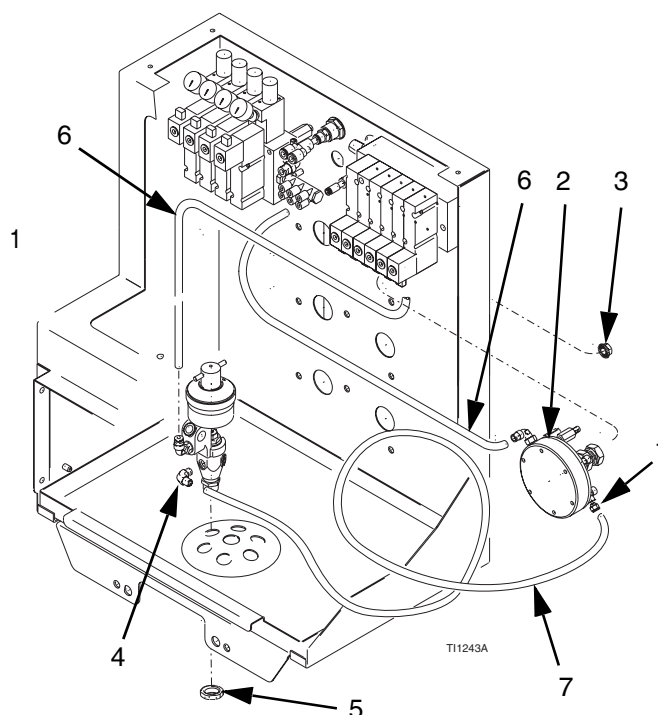

FIG. 1
4. Apply anaerobic pipe sealant to the fitting (1) threads and install fitting into 1/4" regulator outlet. See FIG. 1.
5. Install regulator (2) in desired port and secure it with the two hex nuts (3).
9. Connect PTFE fluid tube (7) between dispense valve fitting (4) and regulator fitting (1). See **FIG. 1**.
10. Connect one piece of nylon tube (6) between regulator air inlet and the solenoid manifold tube fitting.
11. Connect other piece of nylon tube (6) between dispense valve air inlet (4) and corresponding solenoid valve.